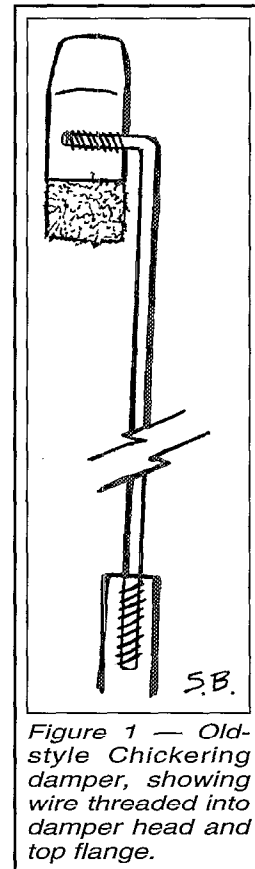

Figure 1 — Old-style Chickering damper, showing wire threaded into damper head and top flange.
**A:** From Les Smith: Having done many of these, I can say that it turns out to be a piece of cake to regulate. Their basic design was very creative and well thought out. To regulate damper lift from the key you simply turn the damper in or out. For example, if the damper is lifting too soon, you merely turn the damper clockwise however many turns it takes to get in lifting properly. If the damper is lifting too late, you simply turn it counterclockwise. Simply remember that turning the damper clockwise *increases* the distance between the damper lifter felt at the back of the key and damper flange and turning it counterclockwise *decreases* the distance. In order to make these adjustments the damper stop rail must be raised as high as possible so that you can get the necessary clearance to turn the dampers without interfering with the neighboring ones. Sometimes you have to even raise the stop rail completely above its screws and temporarily hold it in place with tape until the regulation is completed. Because there are no set screws, a tiny bit of burnt shellac was originally used to secure the damper wires where they entered the top flanges. Also, as designed, the dampers are threaded onto the lifter wire in such a way that they are free to rock back and forth slightly to permit perfect seating (see Figure 1). If you have a problem with them rocking too much, their front-to-back movement can be restricted with a similar dab of burnt shellac. Only the front of the damper lift rail felt is glued down to permit the insertion of paper shims to even out damper rail lift. Where many people run into problems with regulating damper lift from the keys is in not securing the wire to the top of the flange with the burnt shellac. If you don't do this, the damper will sometimes twist sideways because of the lack of a set screw and the damper felt won't seat properly. This leads to all sorts of bad language directed towards Jonas Chickering and his sons, who actually came up with a pretty nifty damper design once you under-